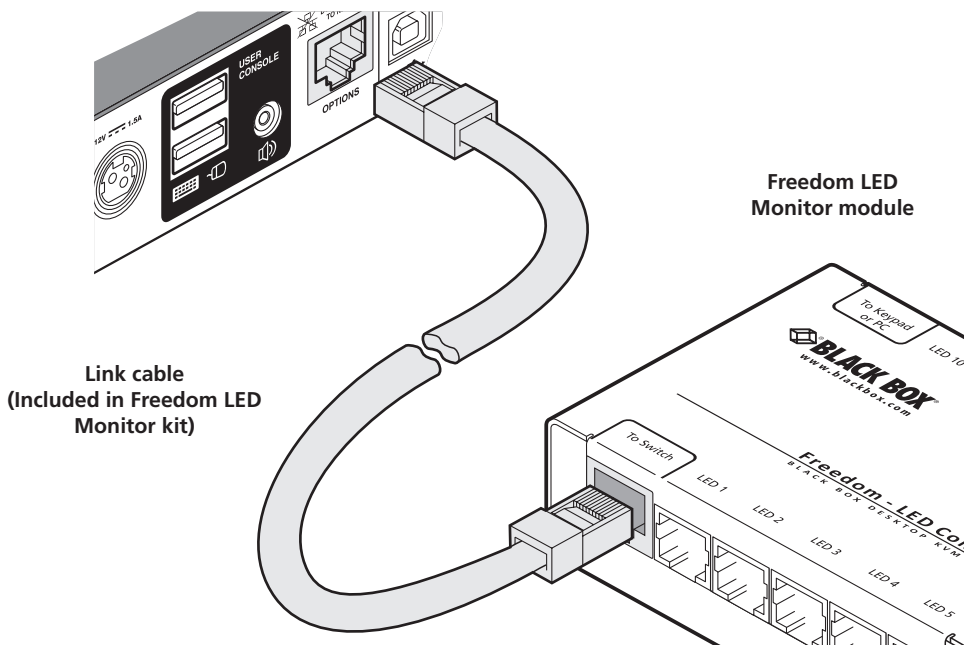

Figure 3-7. Linking the Freedom LED Monitor module to the Freedom II switch.
1. Remove power from the switch. Use the flat cable supplied with the Freedom LED Monitor kit to link the module to the **OPTIONS** port of the Freedom II switch. See Figure 3-7.